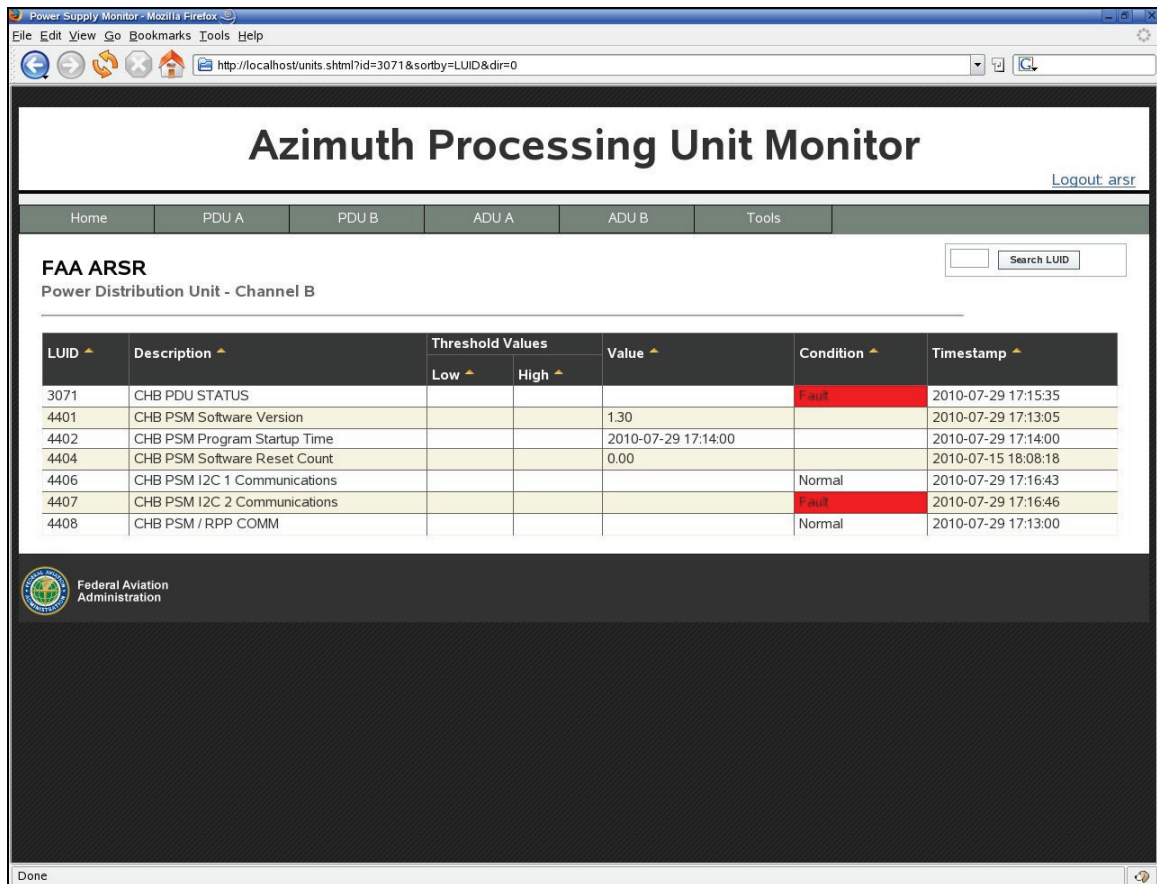

Figure 5 – PDU B Status with 4407 Condition "Fault"
8. Refresh the PDU B status screen and confirm that LUID 4407's condition reads **"Fault"**, and LUID 4406's condition reads "Normal", refer to figure 5.